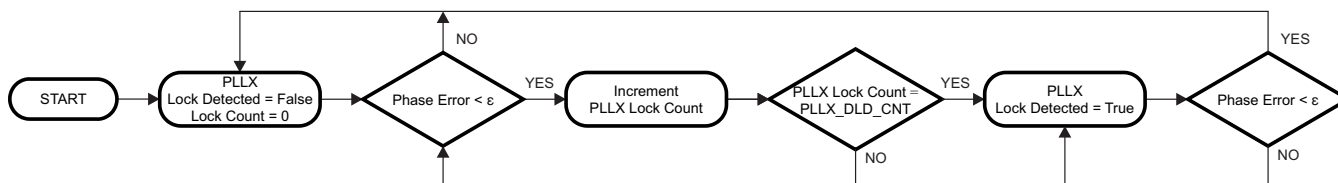

Figure 7-1. Digital Lock Detect Flowchart
Both PLL1 and PLL2 support digital lock detect. Digital lock detect compares the phase between the reference path (R) and the feedback path (N) of the PLL. When the time error, which is phase error, between the two signals is less than a specified window size ( $\epsilon$ ) a lock detect count increments. When the lock detect count reaches a user specified value lock detect is asserted true. Once digital lock detect is true, a single phase comparison outside the specified window will cause digital lock detect to be asserted false. This is illustrated in Figure 7-1.